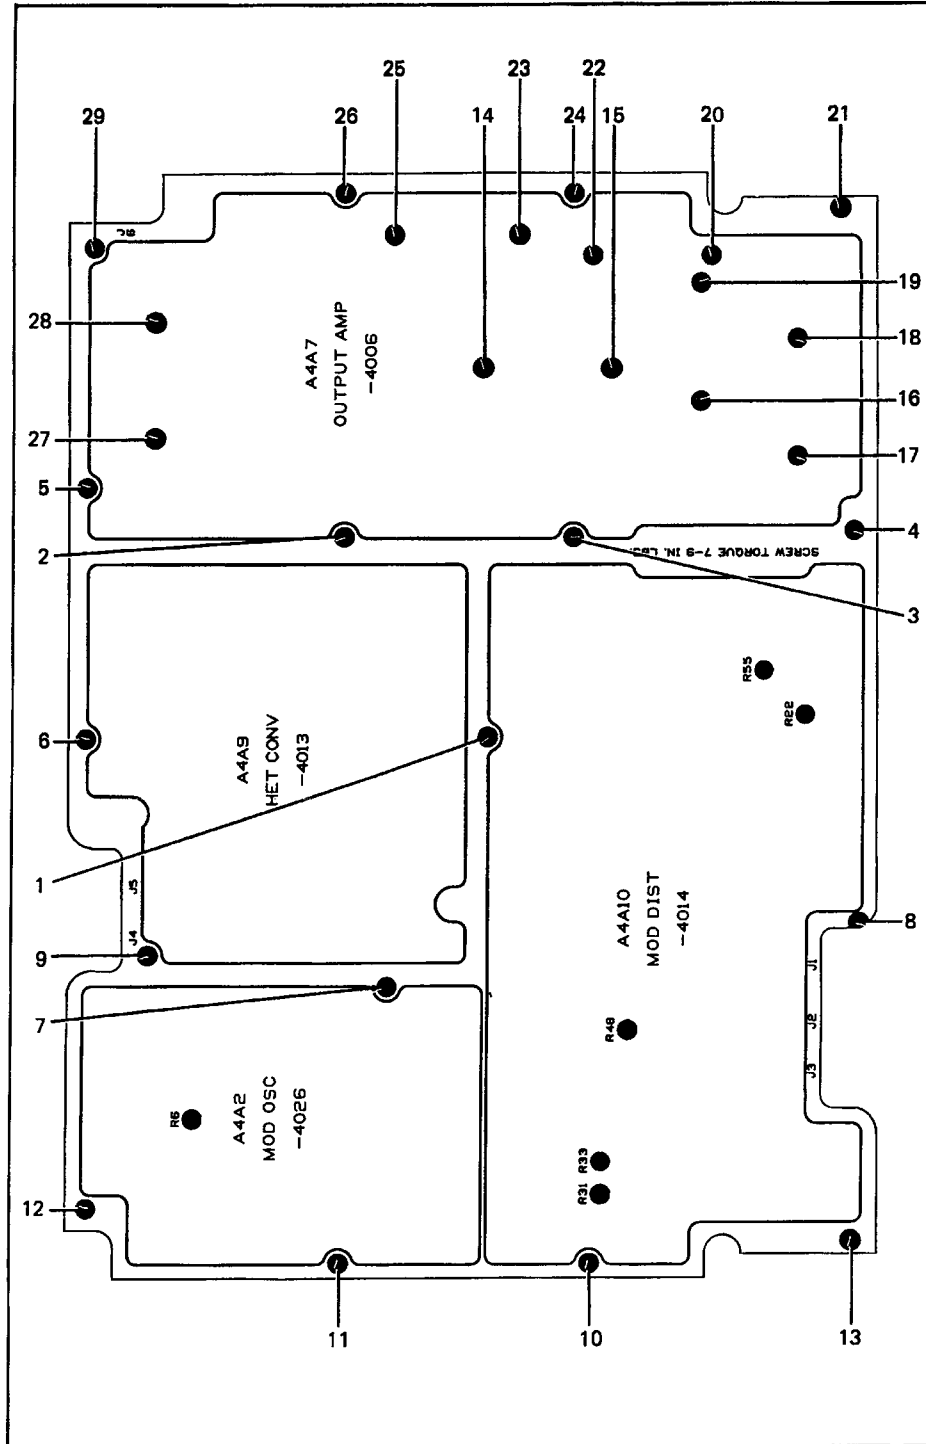

Figure 3-8. Output Module, Bottom Cover
3. Remove the screws and washers that hold that bottom cover of the output module (Figure 3-8) in place.
- a. Torque all screws to 3 inch-pounds in the numerical sequence shown in the Figure 3-8.
- b. Torque all screws to 7 to 9 inch-pounds in the numerical sequence shown in Figure 3-8. The torque value should be the same for all screws.